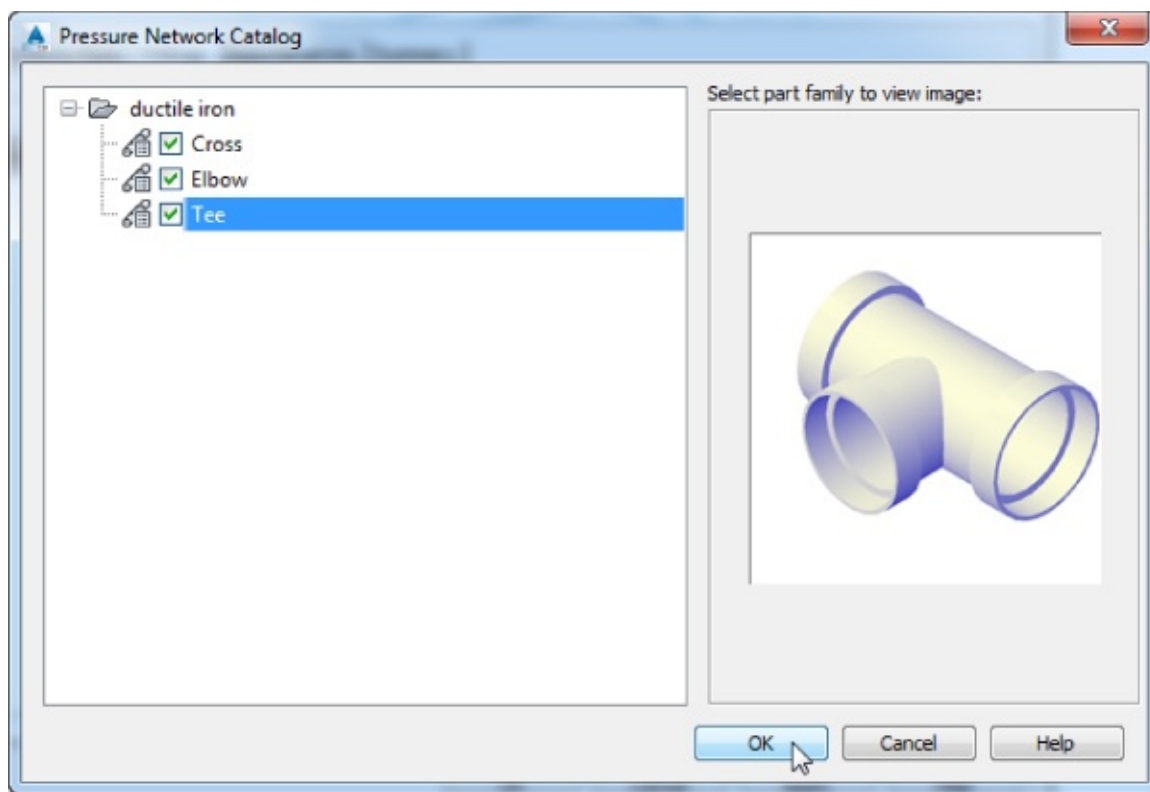

Figure 13.80 Adding fittings to the Pressure Network parts list
13. In the Pressure Network Catalog dialog, place a check mark next to all three fitting types—Cross, Elbow, and Tee—as shown in Figure 13.80, and then click OK.